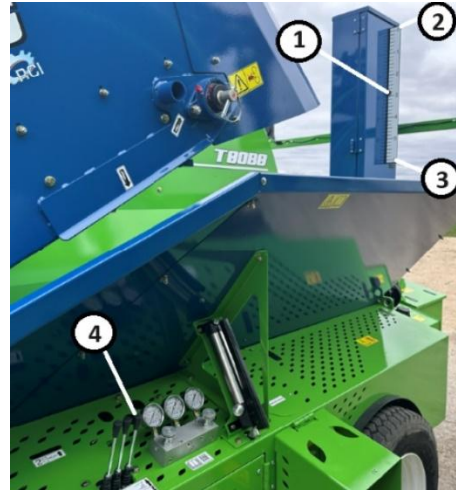

Figure 73. Anchor Position Control
11. Activate the anchor position control to pull the anchors to the home position on the indicator. This is done with the cleanout in the open position such that all forage will press over and around the anchors and fall into the bag. See Figure 73.